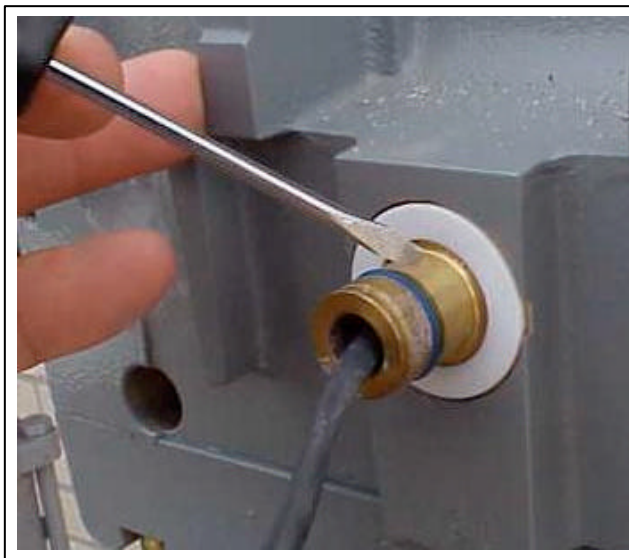

Figure 7.10 Brass Index Connection
10. Look to ensure there is a large Teflon washer on the meter side of the housing and that the blue "O" ring is still in tack on the brass connection shaft. **See Figure 7.10**